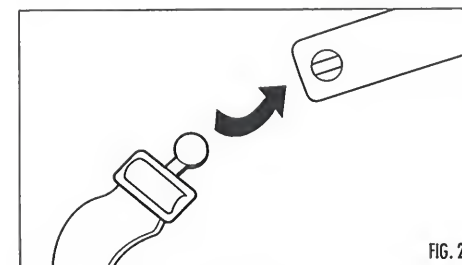

FIG. 2
- 1 Attach the elastic chest belt to the pulse transmitter. (fig. 2)